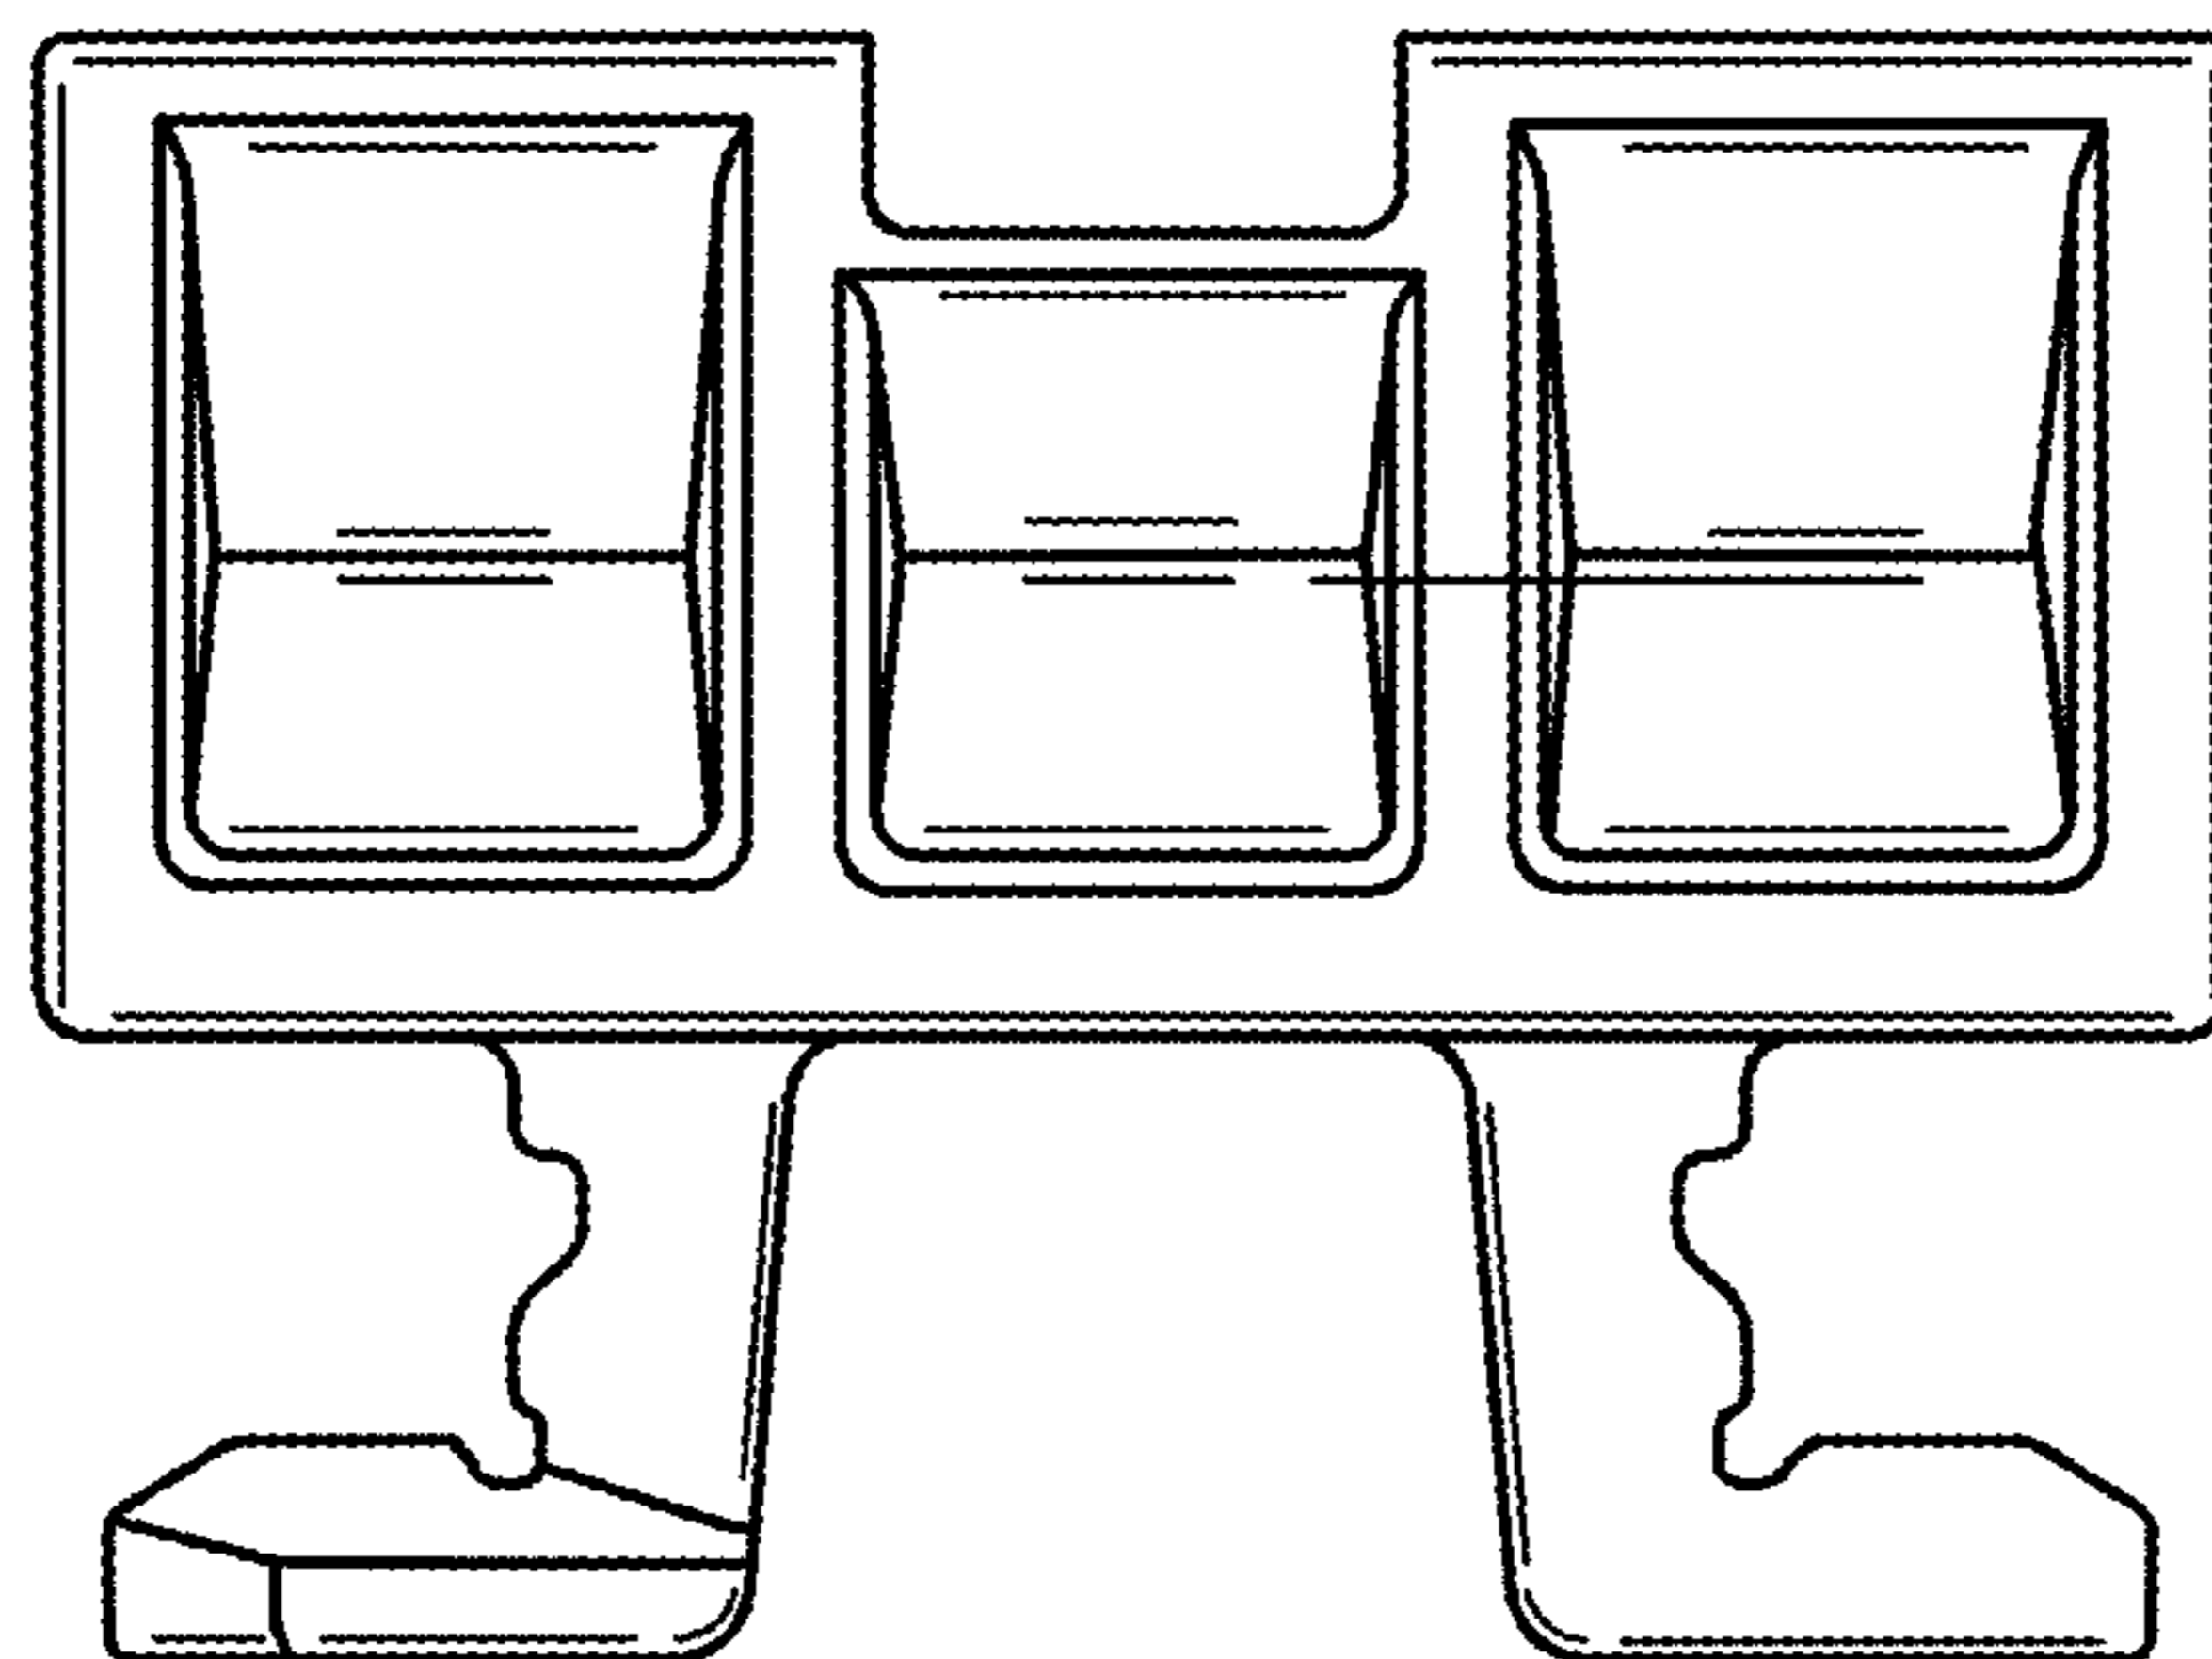

FIG. 2
- FIG. 2 is a rear view of the pipe clamp.